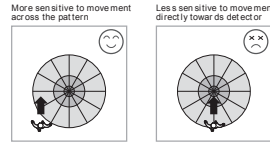

FIG. 3
- 3.1.2 Pay attention to the walking direction during the test. SAE-UE-MS-CSAWE is more sensitive to movement across the detector and less sensitive to movement directly towards the detector which will reduce the detection coverage (See FIG. 3).